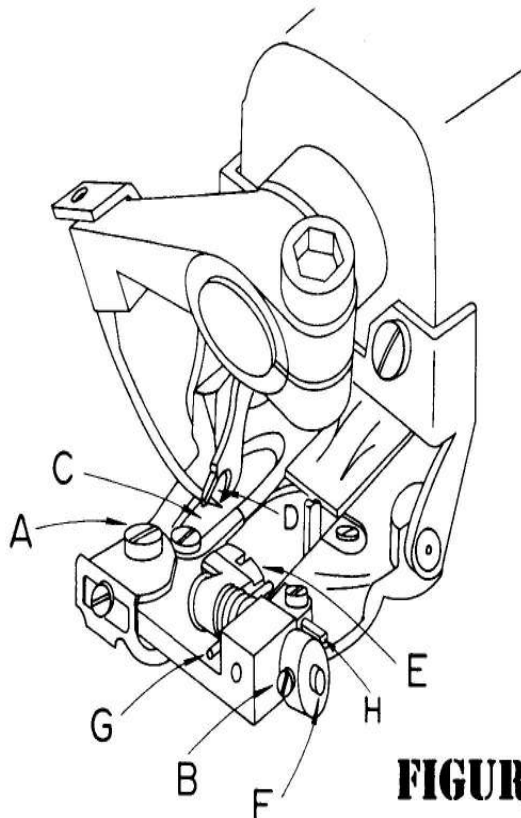

FIGURE 8
6. Once the looper is timed with respect to the needle as outlined in paragraphs 2 thru 5 above, slowly turn the handwheel in a direction away from the operator, until the looper approaches the edge of the looper slot. (**Point "C" in Figure 8**) in the presserfoot. At this point make sure the small prong of the looper clears this edge. If it does not clear, adjust the eccentric block as outlined in paragraph S until the interference is eliminated.
7. Continue turning the handwheel away from the operator until the point of the needle starts to enter the area in between the looper prongs. (**Refer to Point "D" in Figure 8**). If the needle strikes the crotch of the looper, the looper has generally been set too far forward. Check to see if the looper has been inserted into the clamp as far as it will go. It should be inserted until the shoulder on the looper is stopped on the clamp. If this check is satisfactory, recheck the distance from the center of the looper rod fork pin to the rear face of the looper rod ball. Refer to paragraph 4 and reset if necessary. If neither of the above two measures corrects the problem, it is possible that the needle lever may be set too low and required adjustment.
1. The shoe, (**item "E" in Figure 8**), also known as a cloth retainer, normally will not required replacement. However, in the event of wear due to the particular fabrics being used, or if the shoe or spring suffers any damage, they may be readily replaced.
2. The first step is to remove the complete front guide assembly by unscrewing the front guide holder attaching screw (**item "A" in Figure 8**). Next loosen the shoe pin and the shoe eccentric barrel lock screws, (**item "B" Figure 8**), and slide out the shoe pin (**item "F"**), shoe and retaining spring (**item "G"**). Before removing these components it is advisable to note the manner in which the spring is assembled so that it may be reinstalled in the same way.
3. When replacing an old shoe, make sure that the replacement shoe properly fits the pin without binding and without excessive looseness. In the event that the pin has worn and does not fit the new shoe properly, it should be replaced at the same time as the shoe-pin. After replacing the shoe, shoe pin spring into shoe eccentric barrel, retighten screws (*item "B" Figure 8*), and check to insure that the center of the shoe is lined up with the center of the rib. Also insure that the shoe clears both sides of the opening of the presser foot.
4. In and out position of shoe should now be checked. For light fabrics, shoe should be as close to needle as possible. For heavy fabrics with seam, shoe should be set back as far as possible from needle. To move shoe in and out turn eccentric barrel (*item "I" Figure 8*). After the correct location is established, be sure to tighten screws, (*item "B" Figure 8*).
4A. An additional shoe adjustment is also possible. The height of the shoe can now be controlled, (*item "H" in Figure 8*). This is a tapered pin and position can be adjusted so that the shoe, whenever required, can be controlled as far as elevation is concerned. By moving the tapered pin in or out the shoe can be kept from pressing down on some fabrics which require little, if any shoe pressure. By having this control, it sometimes will aid in penetration of difficult fabrics. The normal position of the shoe, when set properly on most fabrics, is that the shoe will show movement on the penetration cycle on one ply of fabric.